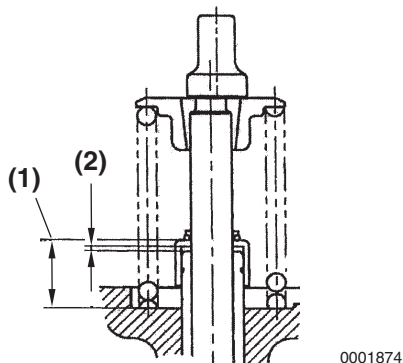

Figure 6-29
2. Measure the distance (Figure 6-29, (1)) from the cylinder head to valve stem seal to ensure proper clearance (Figure 6-29, (2)) between the guide and the seal. See *Intake / Exhaust Valve and Guide* on page 6-7.